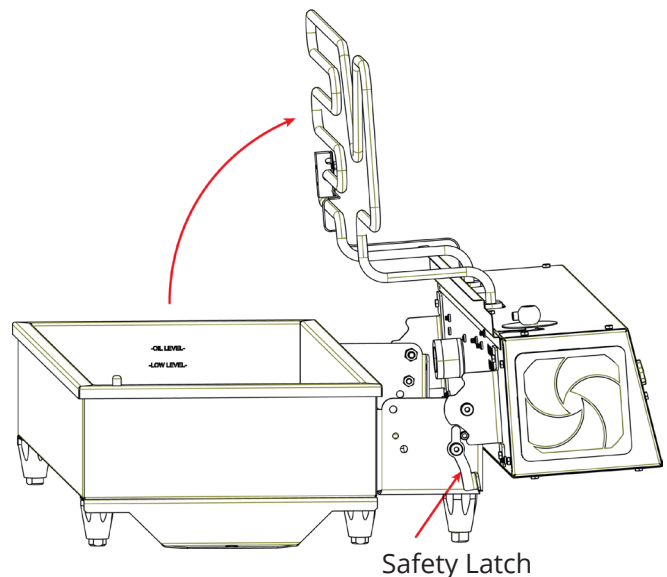

Figure 15
12. To clean the elements, tilt the heater head assembly back, raising the heating element out of the kettle. See Figure 15.
14. Lift the kettle out of the fryer case. The safety latch on the outfeed side will automatically engage, preventing the elements from falling forward. See Figure 15.